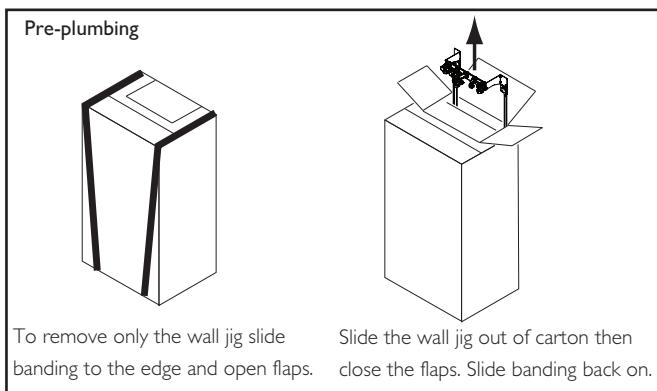

Fig. 15
3. If pre-plumbing (Fig. 15) - the wall jig and fitting kit can be removed without removing the carton sleeve. Simply slide banding to the edge and open the perforated flap, lift out the jig, fitting kit and instructions. If the boiler is to be installed at a later date, close the flap and reposition the banding straps, the boiler can now be stored safely away.